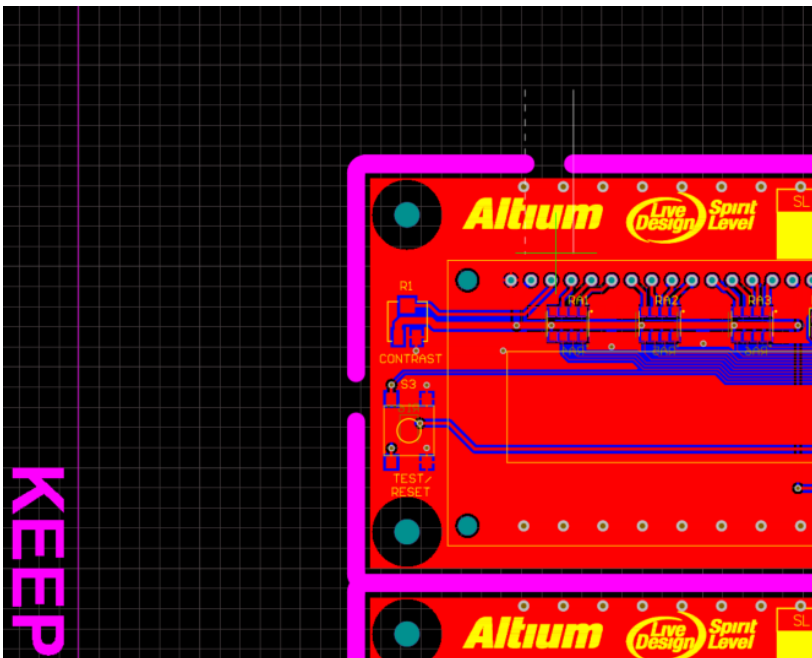

Figure 14. Position of the Slice Tracks cursor for first vertical cut
- a) While still in the **Slice Tracks** command, position the crosshair cursor near the top-left corner of the PCB as shown in Figure 14. If you've exited the command, it can be found from the **Edit** menu.